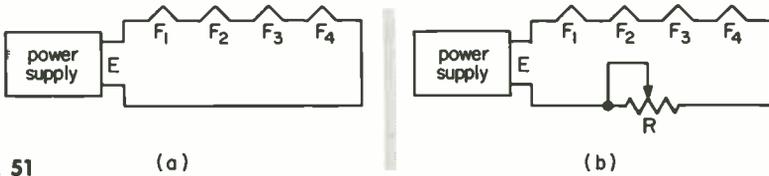

Fig. 51
6. Lamp filaments are often operated in series. Figure 51(a) shows four identical filaments, F_1 , F_2 , F_3 , and F_4 , in series. If the proper operating voltage for each filament is 6.3 V, then the proper power-supply voltage E is _____ volts. If the actual power-supply voltage is greater than this value (which is often the case), a resistor R , as shown in Fig. 51(b), can be connected in series to provide proper operation. If the voltage across R is 20 V, then the power-supply voltage E should be _____ volts for proper voltage on the lamp filaments. If the power-supply voltage is 30 V, then the value of R should be adjusted until the voltage across it is _____ volts for proper voltage on the lamp filaments.
Example 1 . . . If R in Fig. 51(b) is $80\ \Omega$, and the current through filament F_1 is $0.5\ \text{A}$, the voltage drop across R is _____ volts.
Example 2 . . . Assuming a current of $0.5\ \text{A}$, what value should R in Fig. 51(b) have in order that the voltage across it will be $20\ \text{V}$?